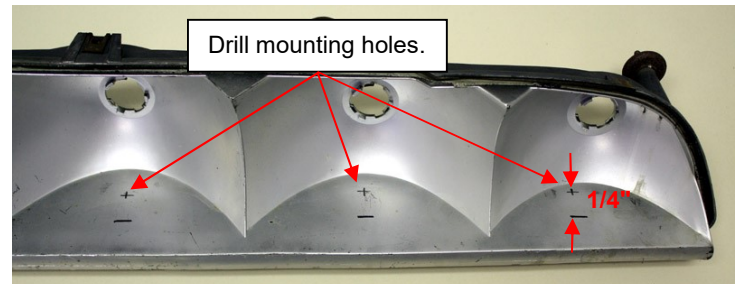

Figure 3
- 3.3. Measure back exactly 1/4" from the center of each mounting tab line and mark a position to drill mounting holes. (See Figure 3) Drill 3 – 1/8" diameter mounting holes into housing assemblies at the marked hole positions.
- 4.1. For the three housings making up a taillight assembly, bring each of Pink wires together for splicing with moderate slack. Cut off any excess wire length and strip off $\frac{1}{4}$ " insulation off each wire. From the 20 foot Pink wire coil supplied, cut a 6" piece of wire and stripe one end $\frac{1}{4}$ " to include with the splicing of the three other Pink wires from each housing. Slide a piece of heat shrink tubing over all wires on one side of the splice. Using the butt splices provided, insert the Pink wires into each side of the butt splice and crimp the wires together. Then slide the heat shrink tubing over splice and shrink into place with a heat gun or other suitable heat source. (See Figure 3) Perform this operation for both left and right housings.